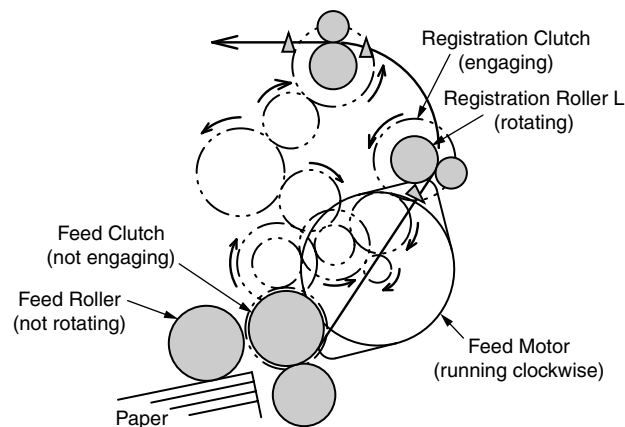

Figure 2-2
3. As figure 2-2 shows, a registration clutch engages and the registration roller L feeds paper (the registration roller L rotates when the registration clutch engages).